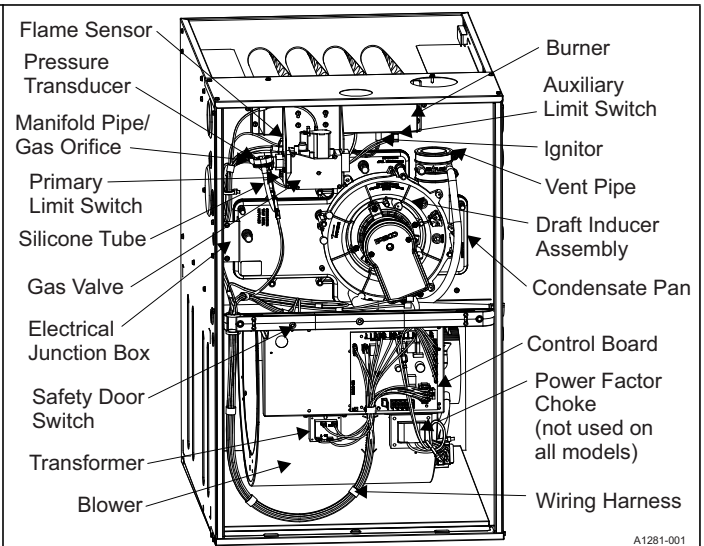

FIGURE 6: Component Location - 95% Ultra Low NOx Models
2. Check that the manual gas shut-off valve in the gas piping supply is turned to the ON position. Refer to Figure 6.